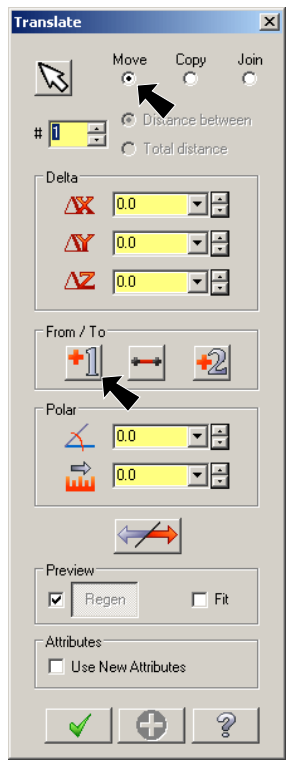

Fig. 31
Step 6. Set: **Move**  click **Select FROM point button** , **Fig. 31.**
Step 10. Click **OK**  to close the Translate dialog box, **Fig. 31.**